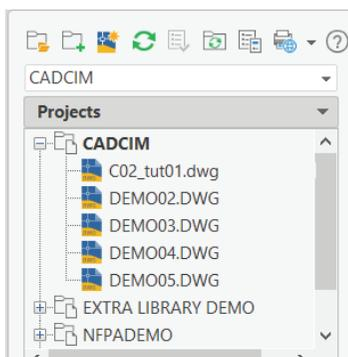

Figure 2-68 The PROJECT MANAGER displaying the CADCIM project after removing the DEMO01.dwg drawing
- Right-click on the *DEMO01.dwg* drawing and then choose the **Remove** option from the shortcut menu displayed; the **PROJECT - Manager Remove Files** message box is displayed. Choose the **Yes** button in this message box; the *DEMO01.dwg* drawing is removed from the drawing list, see Figure 2-68.